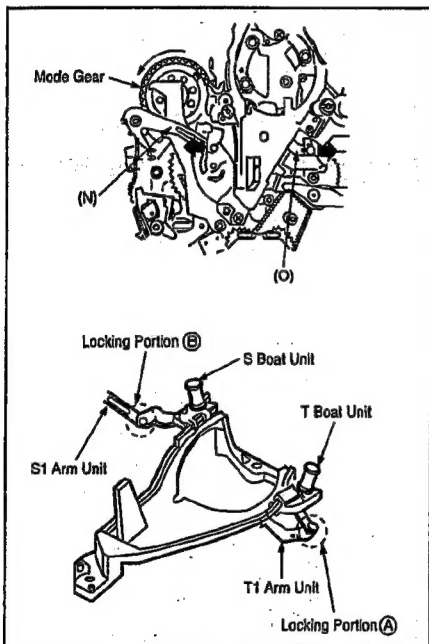

Fig. M22
11. T2 Arm Unit Fig. M22 Confirm the hooking portion of the Main Brake T Spring.